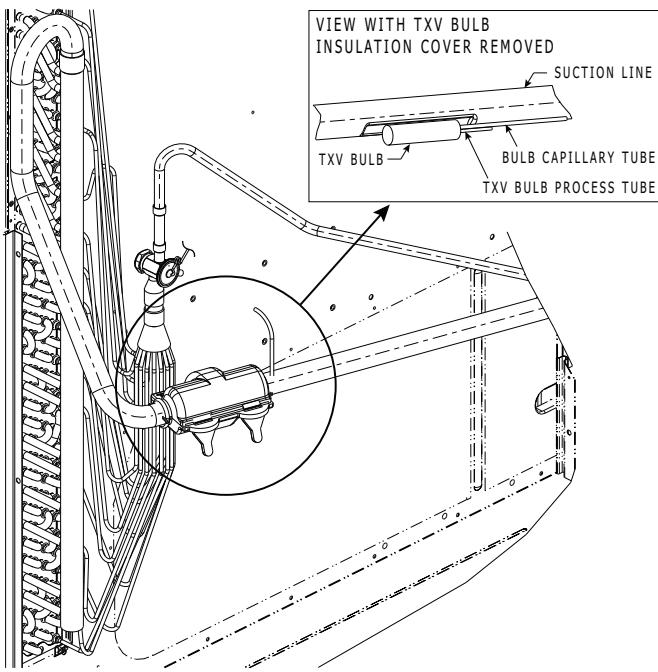

Fig. 23 – TXV Valve and Sensing Bulb Location
10. Attach TXV bulb in the same location where the original (in the sensing bulb indent) was when it was removed, using the supplied bulb clamps. See Fig. 23.